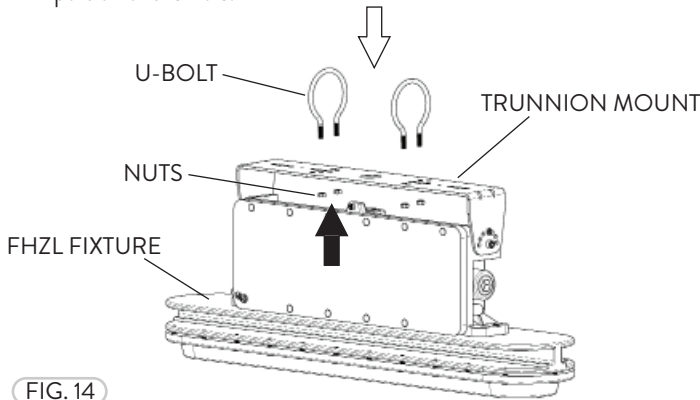

FIG. 14
- 1 The Optional Pole Mount can be used for all the FHZL fixtures that fit directly onto the Trunnion Mount (Fig. 14). Round Poles (Ø2.4" Max) will fit the U-Bolts provided. The arm length of the Pole needs to be more than the length of the fixture to clear the vertical portion of the Pole.